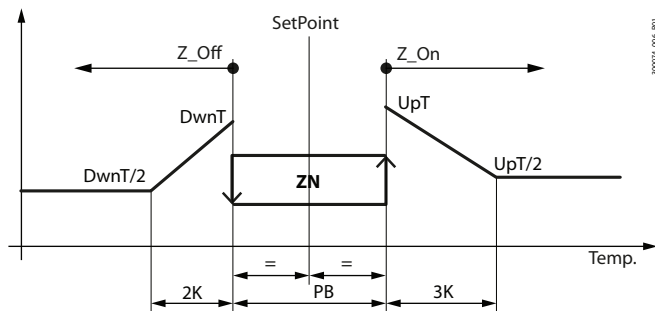

Fig. 5.1
- dead band (ZN in Fig 5.1), no action is performed;
- timed on (Z\_On in Fig 5.1), one step and the call counter are started to activated the subsequent steps;
- timed off (Z\_Off in Fig 5.1) the shutdown counter is started for deactivation of the steps.